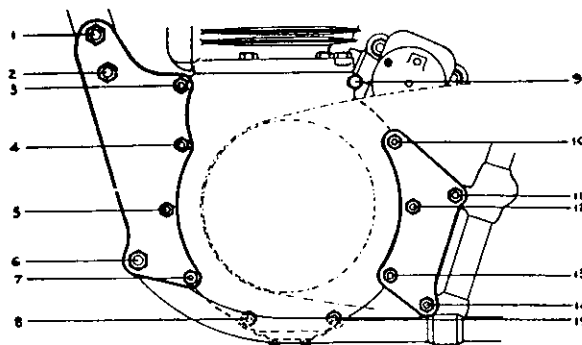

Fig. 7. Engine Securing Studs.
- (2) Remove the oil pipe junction block from the engine. Unscrew the feed pipe union nut at the oil tank. To remove the oil pipe, slide the rubber connector off the return pipe.
- (3) Remove the two nuts securing the torque stays to the engine. Slacken off the bolt at the clip and lift the stays off the engine studs.
- (4) Release the cable from the exhaust valve lifter lever and unscrew the adjuster from the abutment.
- (5) To remove the engine from the frame, support the engine at sufficient height to allow the sump bolts to rest on the support. Remove the plug from the drive side crankcase inner chaincase to allow removal of stud No. 10 (Fig. 7). Now remove studs 11 and 14 and slacken off 10, 12, and 13 in the rear engine plates. Take out studs 1, 2, 3, 4, 5 and 7 and slacken off No. 6. Tilt the engine backwards and swing the front engine plates forward. Lift the engine out of the frame from the left-hand side, when the front engine plates and crankcase shield will be left in position ready for re-assembly.